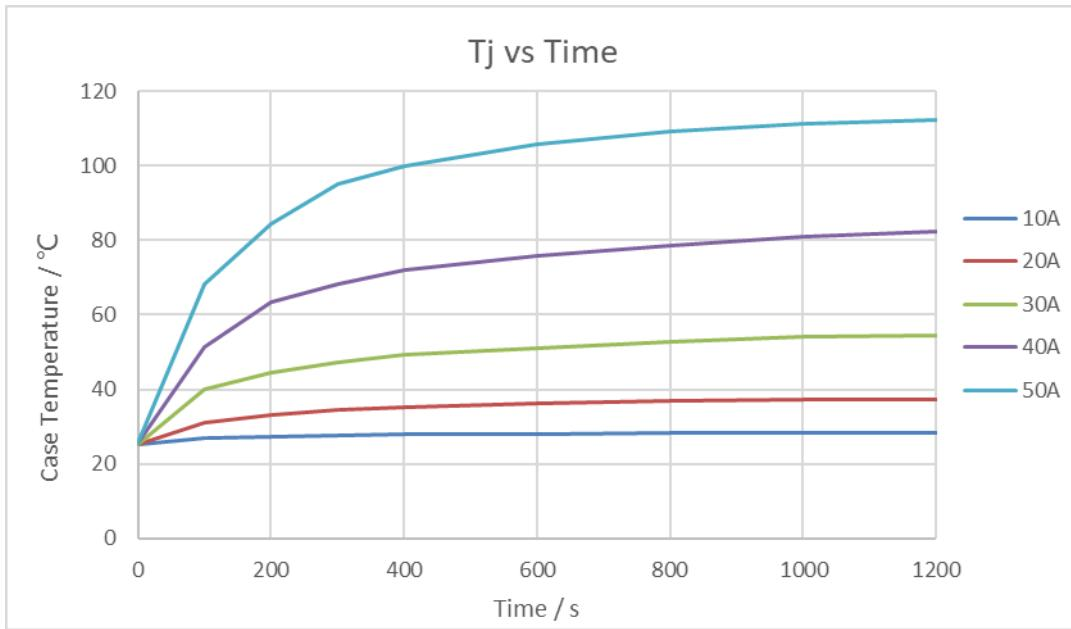

Figure 1. Relationship between STK-616KM Case temperature and amount of input current
**Remark 1:** Figure 1 shows the results of current & temperature measurement. Tested by using a standard demo test board, with 4 layers of copper conductors, where the thickness for each layer is 2 oz, the total thickness of demo board is 1.6 mm. This result is a reference data. Tc is changed much by the board layout and the heat dissipation. Please confirm it in your evaluation environment.